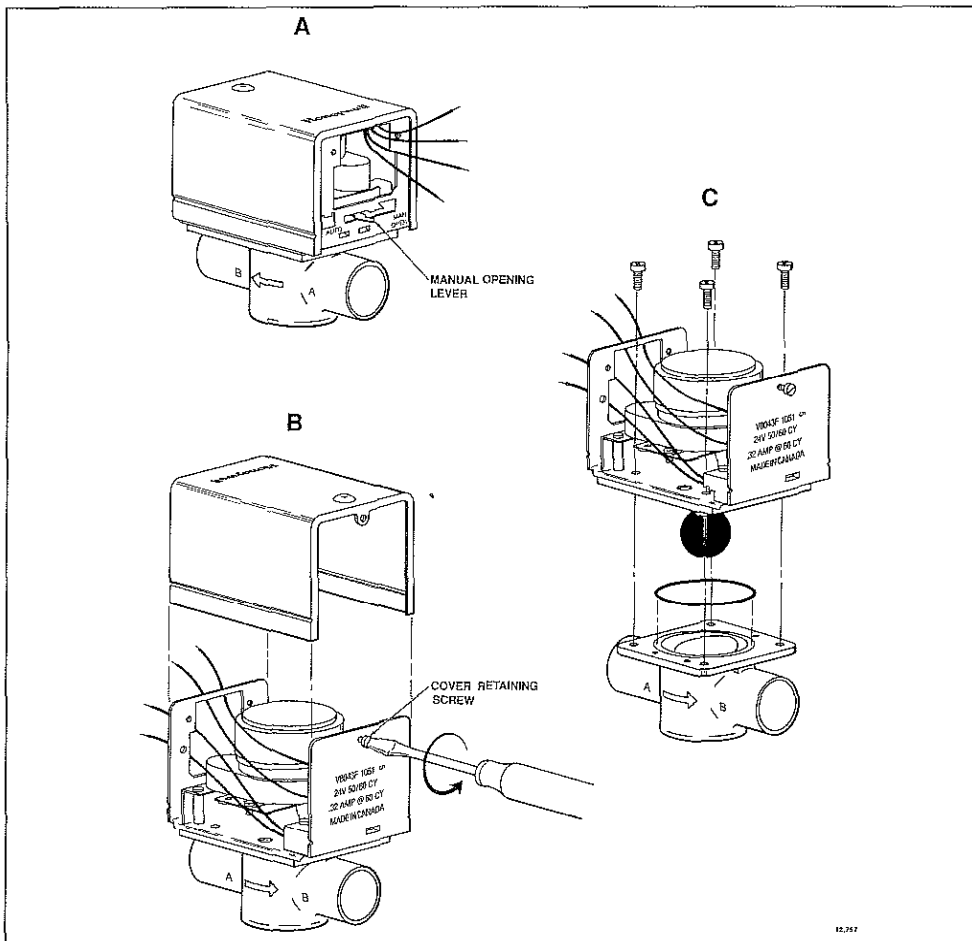

Fig. 2—Remove old powerhead from old style valve bodies.
4. Remove the old powerhead from the valve body (see Fig. 2)—